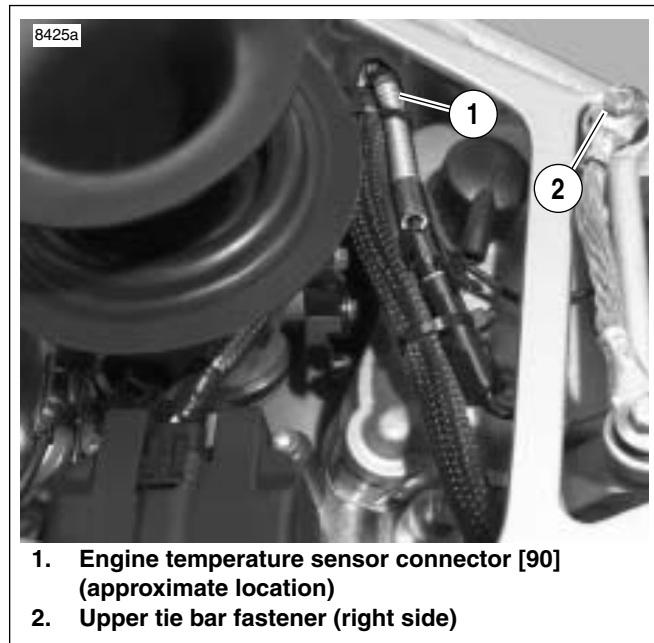

Figure 4-77. Engine Temperature Sensor Connector Approximate Location [90]
4. See Figure 4-77. Remove right upper tie bar fastener (2). Rotate tie bar to provide access to sensor.
4. See Figure 4-77. Connect ET sensor 1-place connector [90] to wiring harness.
5. Install right upper tie bar fastener (2). Tighten fastener to 25-27 ft-lbs (33.9-36.6 Nm).